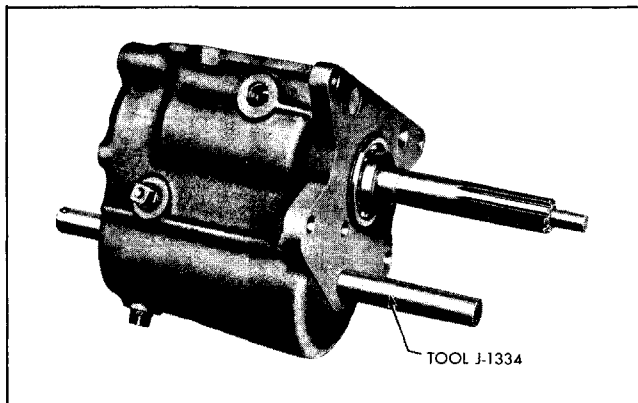

Fig. 7-23 Removing Countershaft with Tool J-1334
9. Drive countergear shaft to rear so it clears hole in front of transmission case. Insert transmission needle bearing loader, J-1334, in hole in front of transmission and use it to push countergear shaft out of rear of case (Fig. 7-23), allowing countergear and tool J-1334 to rest on bottom of case.